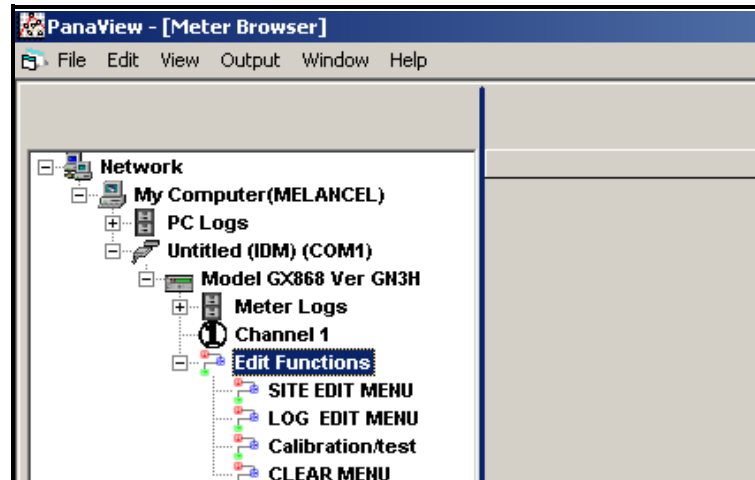

Figure 33: Meter Tree with *Edit Functions* Option
4. From the meter tree, expand the *Edit Functions* option. The window now appears similar to Figure 33, with a list of available menus. The menus listed are those available on the meter.